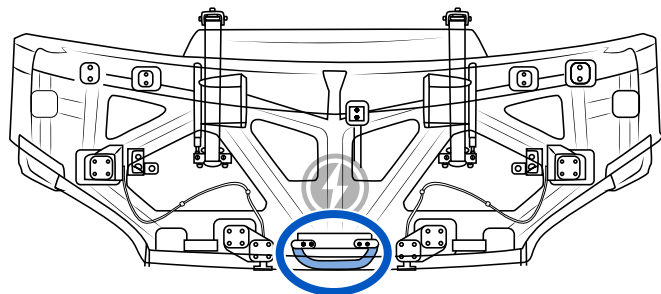

Figure 15 - Location of handle under the hood
3. Slowly lift the hood and locate the handle located in the center, at the far edge of the hood (**Figure 15**).